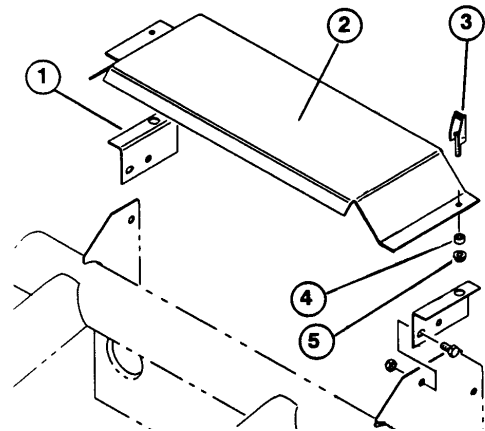

Figure 1
2. Mount the left-hand cover bracket to the frame with (2) 5/16-18 x 5/8" capscrews and locknuts (supplied with the kit).
4. Insert a swell latch into each mounting hole of the radiator cover as shown in figure 1. Secure latches to each side with a rubber grommet and plastic nut.